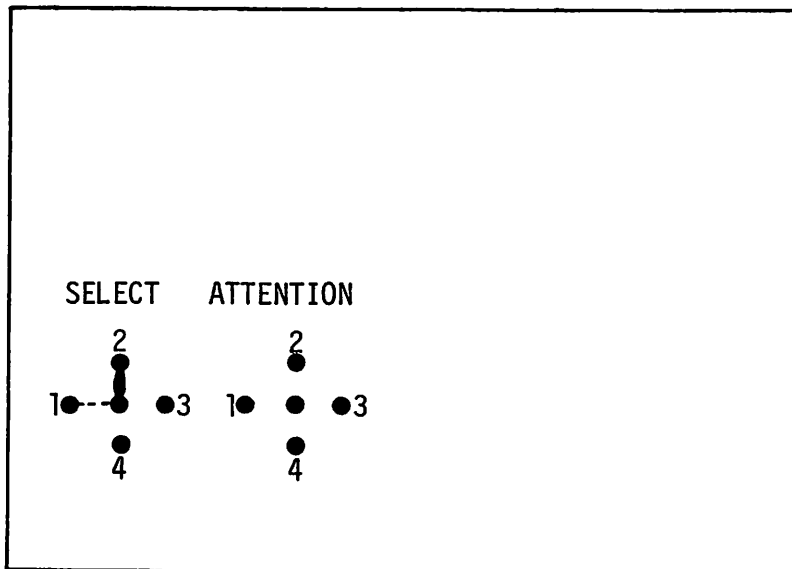

FIGURE 2 - DISK DRIVE SELECT PLUG
- a) Remove the terminator and terminator cover from the rear panel of Drive 2. Insure the disk select plug is in position 2 (Figure 2).
- n) Change the SELECT plug from position 1 to position 2 (Figure 2).